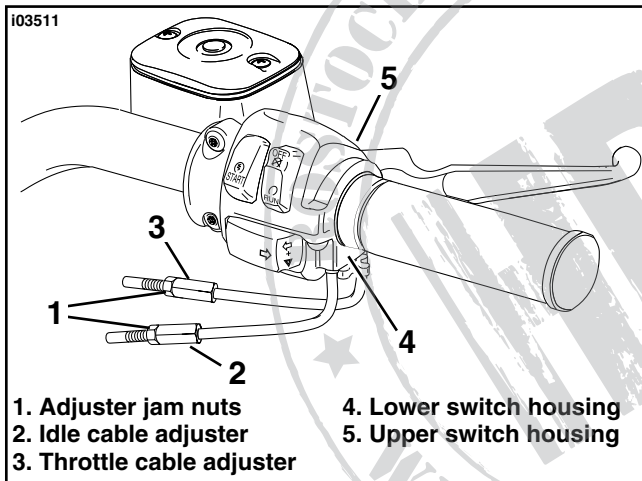

Figure 3. Handlebar Throttle Control
6. See Figure 3. Loosen the cable adjuster jam nuts. Screw the cable adjusters in until they are as short as possible. This will provide enough slack for easy removal.